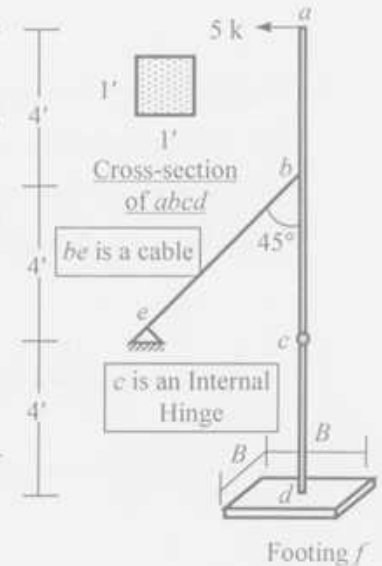

Fig. 1
- At section d of structural member $abcd$ loaded as shown in Fig. 1.
- For the member $abcd$ loaded as shown in Fig. 1, calculate the required dimension (B) of the square footing f
1. (a) Define Viscosity. Derive Newton's equation of viscosity. (8)
- (b) A cubical block weighing 200 gm and having a 20 cm edge is allowed to slide down on an inclined plane surface making an angle of 30° with the horizontal on which there is a thin film having a viscosity of 2.2×10^{-3} N-s/m². What terminal velocity will be attained if the film thickness is estimated to be 0.35 mm? (9)
- (c) Calculate the pressure difference between points A and B (as shown in Figure 1). Specific gravity of water is 9.81 kN/m³. (8)